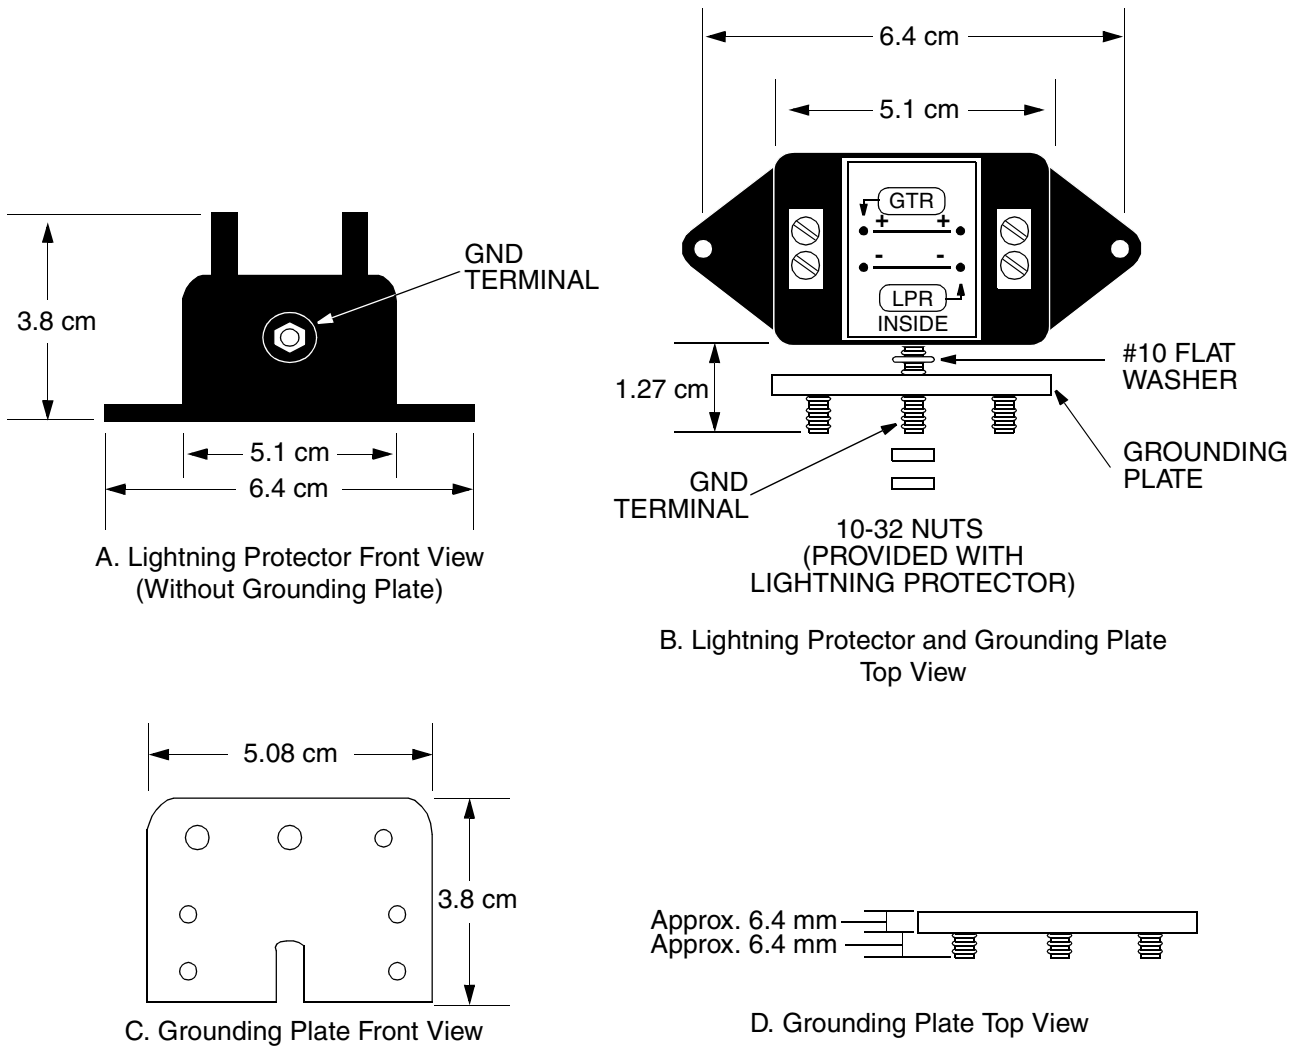

Figure 7. GTR Lightning Protector and Grounding Plate
1. Using Figure 7, install the flat washer onto the GND stud, and mount the lightning protector grounding plate onto the GND stud.
20. Using Figure 7, secure the lug connectors to the “LPR +” and “-” side of the lightning protector, following the color code saved previously (if not using Symmetricom cable), or if using Symmetricom cable: + is red, - is black, and ground is white.
1. Using Figure 7, install the flat washer onto the GND stud, and mount the inside lightning protector grounding plate onto the GND stud.
20. Refer to Figure 7, and connect a 4.115 mm (6 AWG) (or larger) wire from the GND terminal on the side of the inside lightning protector to the building ground (primary protection ground) in the building.
1. Using Figure 7, install the flat washer onto the GND stud, and mount the outside lightning protector grounding plate onto the GND stud.
8. Using Figure 7, secure the lug connectors to the “GTR + and –” side of the outside lightning protector and GND terminals, following the color code saved previously (if not using Symmetricom cable), or if using Symmetricom cable: + is red, – is black, and ground is white.
6. Using Figure 7, connect the PWR+ and PWR– leads to the “LPR +” and “–” side of the outside lightning protector, following the color code saved previously (if not using Symmetricom cable), or use the Symmetricom cable colors.